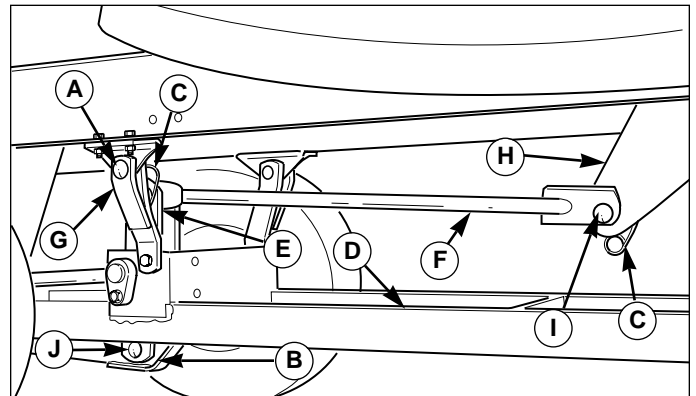

Figure 16. Lift Rod
4. See Figure 16. Attach the dozer lift arm (B) to the hitch lift arm (E) using a clevis pin and safety clip.